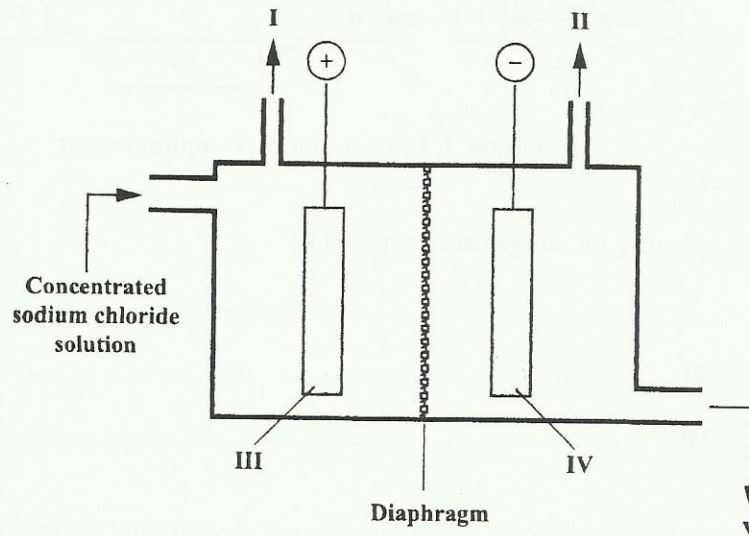

Figure 3. Diaphragm cell used in the production of chlorine
3. (a) Figure 3 shows a diaphragm cell used in the production of chlorine.